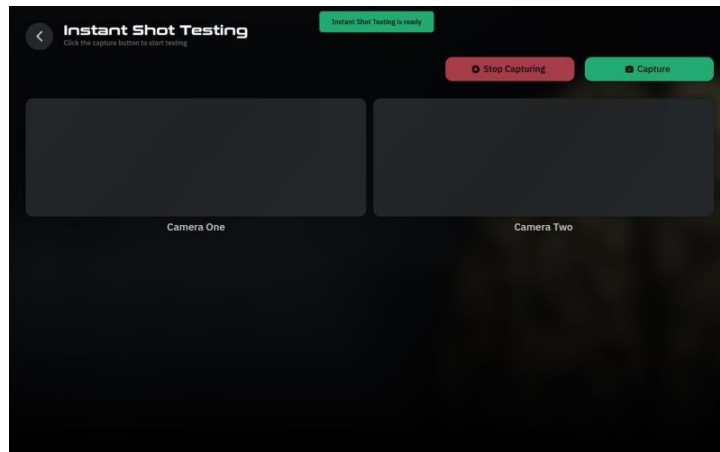

Figure 5.6: Camera test — ready
2. **Ready for test:** When the testing mode is ready, a green banner will appear, and it informs that Marvel is ready for camera testing, 'Capture' button will become available (Figure 5.6).